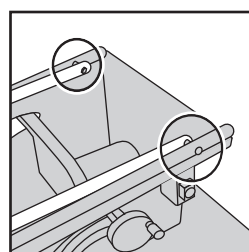

Fig. 8
- Repeat on the other side. **(Fig. 8)**.